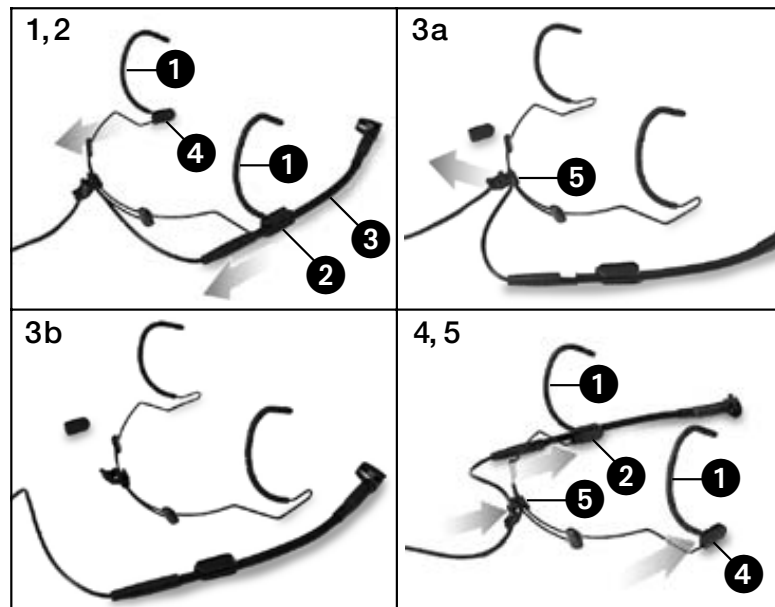

Fig. 2: Removing the microphone arm.
- Refer to fig. 2.
1. Pull the microphone arm holder (2) with the microphone arm (3) from the temple piece (1) in the direction of the arrow.
2. Remove the cover (4) from the other temple piece.
3. Remove the cable from the cable holder (5).
4. Insert the microphone arm holder (2) and the cover (4) all the way into the respective wire loop below the opposite temple piece (1). (The cover (4) stabilizes the temple piece and prevents your hair from getting caught in the wire loop.)
5. Press the cable back into the cable holder (5).